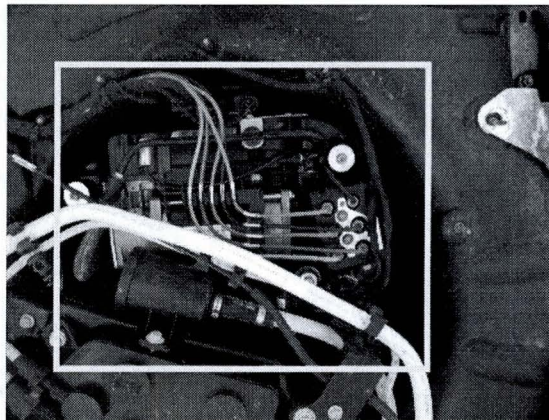

Figure 1
-Are there any air leaks on or around the air supply unit? (Figure 1)